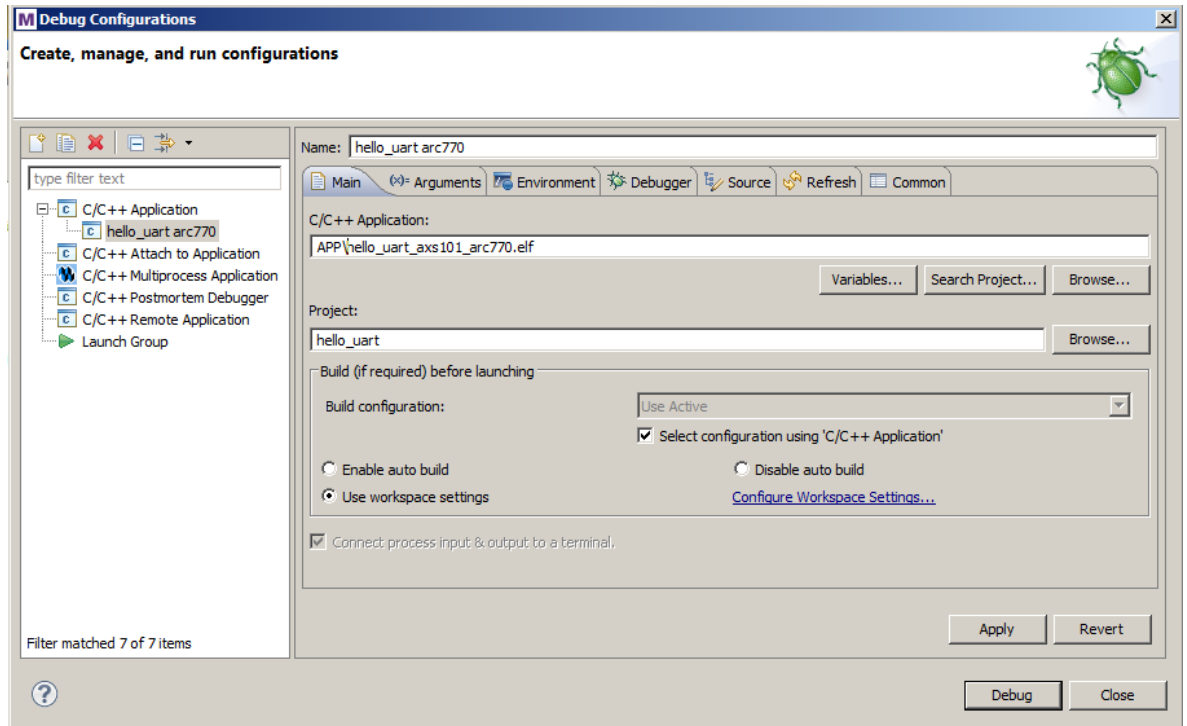

Figure 53 MetaWare IDE – Setting up the debug configuration
6. Double click on **C/C++ Application** to create a new debug configuration for the project or select an existing debug configuration. Select the **Main** tab and enter a name of your choice in the **Name** field. It is recommended to compose the name from the project name and the ARC core. Enter the path and the name of the elf-file (with or without HOSTLINK) in the **C/C++ Application** field and enter the application name in the **Project**. See Figure 53 for an example.